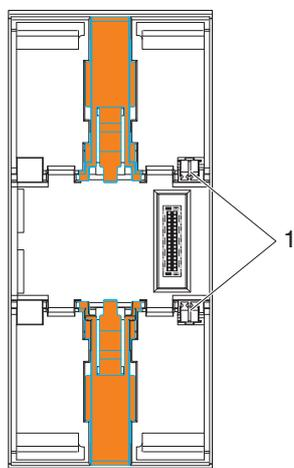

Fig. 8-1 FE spring (1)
- 1 The modules have at least one FE spring (metal clip, 1 in Fig. 8-1) at the bottom. This spring establishes an electrical connection to the DIN rail when the module is mounted.